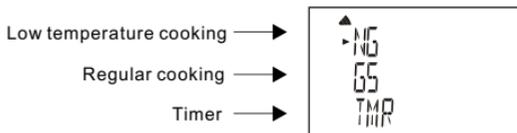

Fig.1 – Main Menu (German)
- Select the cooking mode: In the main menu (Fig.1), press ▲ or ▼ button to select the cooking mode.
- Select Low Temperature Cooking: In the main menu (Fig. 1), press **▲** or **▼** button to select Low Temperature Cooking (German: NG, French: CBT).
- Select Regular Cooking: In the main menu (Fig.1), press ▲ or ▼ button to select Regular Cooking (German: GS, French: DC).
- **Enter the timer feature:** In the main menu (Fig.1), press ▲ or ▼ button to select timer (TMR). Then, press ► to confirm and go to the next step.